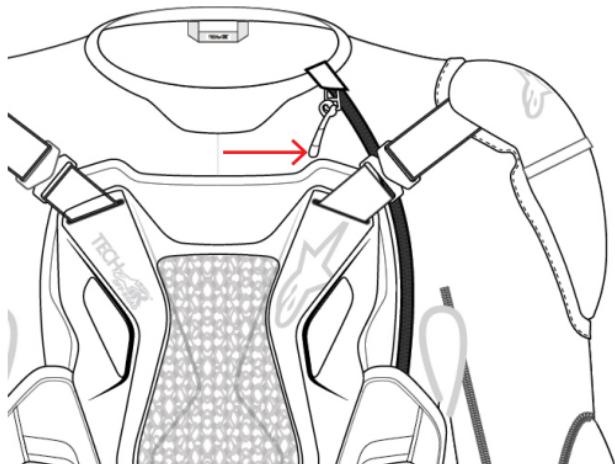

Figure 8: System switch on with the closure of the Activation Zip (1)
To use the Tech-Air® Off-Road System, the User has to simply put on/wear the System and close the Activation Zip (1) from the bottom to the top (Figure 8).